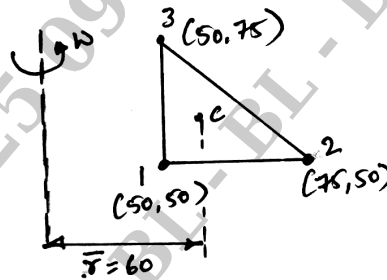

Fig Q9(b)
b. For the element of an axisymmetric body rotating with a constant angular velocity $W = 1000 \text{ rev/min}$ as show in Fig Q9(b). Determine the body force vector. Include the weight of the material, where the specific density is 7850 Kg/m^3 .